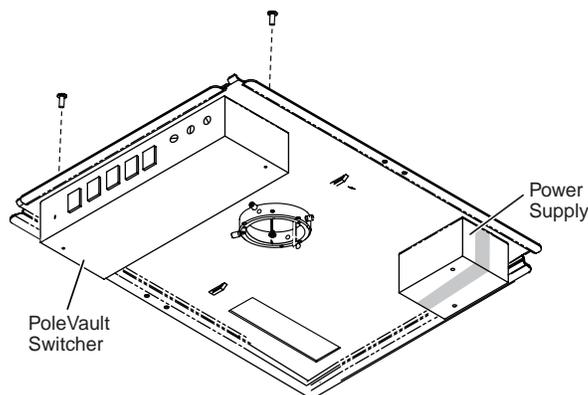

Figure 2-2 — PVS 305SA and power supply attached to PMK 550 plate
2. Invert the mounting plate and the PoleVault switcher (so the top is against the plate) and attach the PoleVault switcher to the plate with the two supplied screws (see figure 2-2).